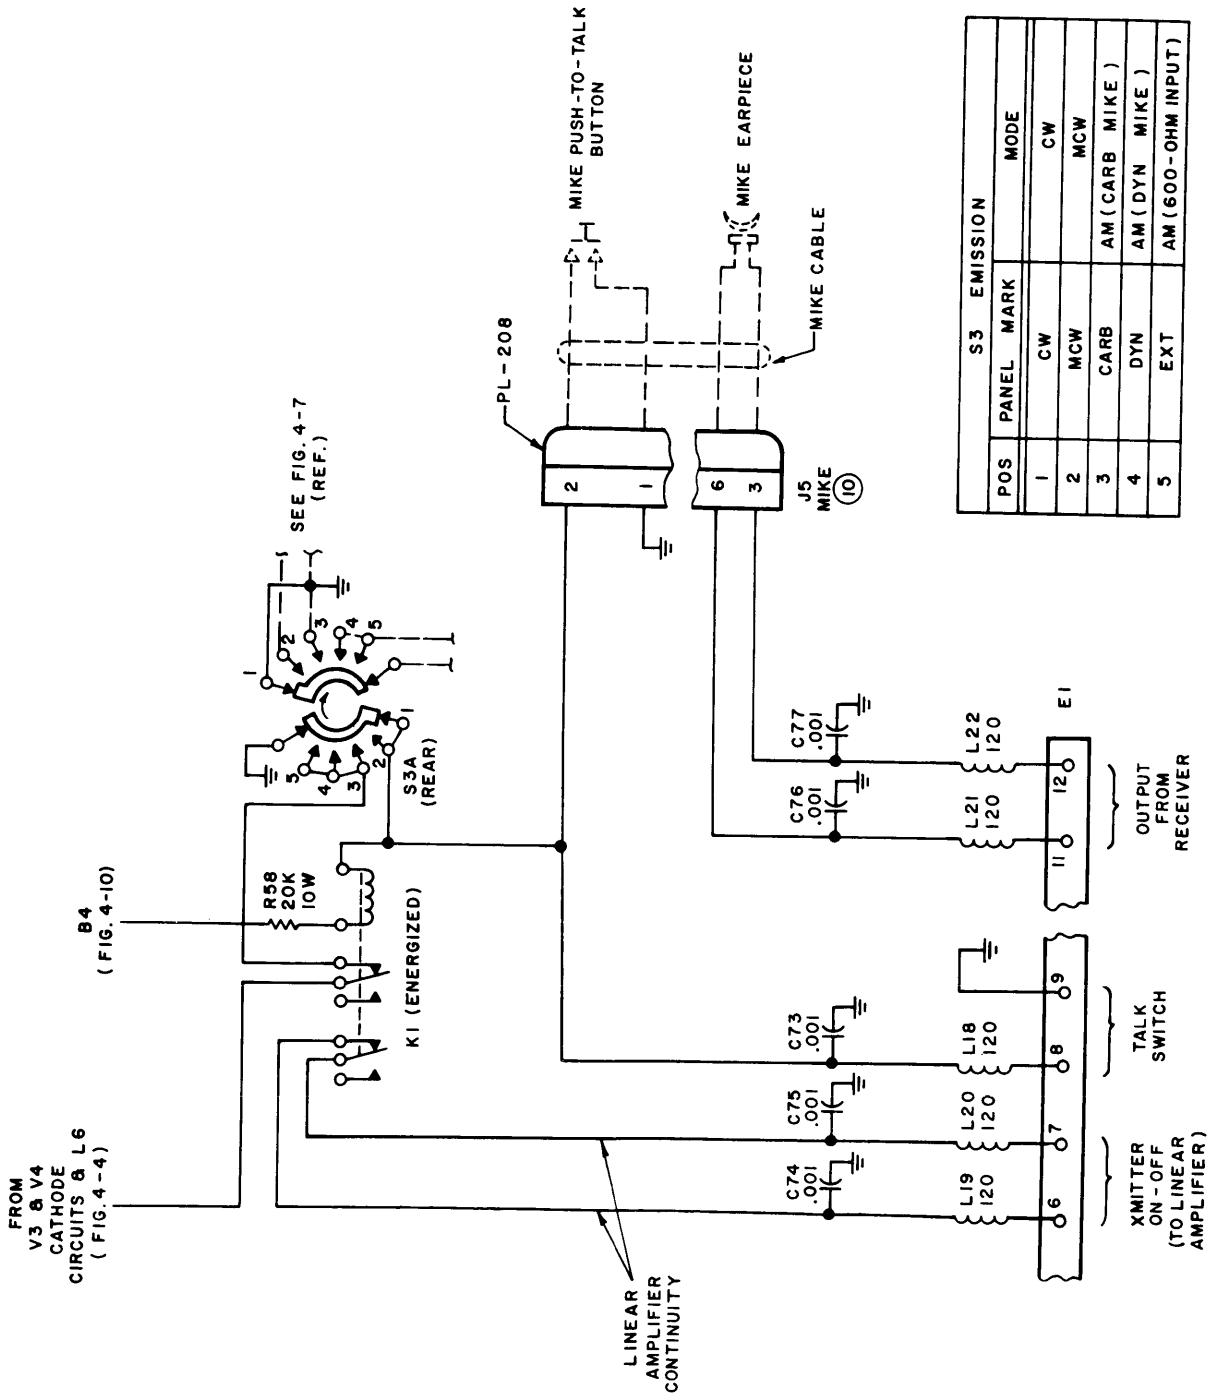

Figure 4-8. Simplified Schematic Diagram, Push-to-Talk Section, GPE-1.
h. PUSH-TO-TALK SECTION (figure 4-8). The half-sector of S3A rear wafer shown solid in figure 4-8 together with K1 relay, make connections necessary for push-to-talk control.